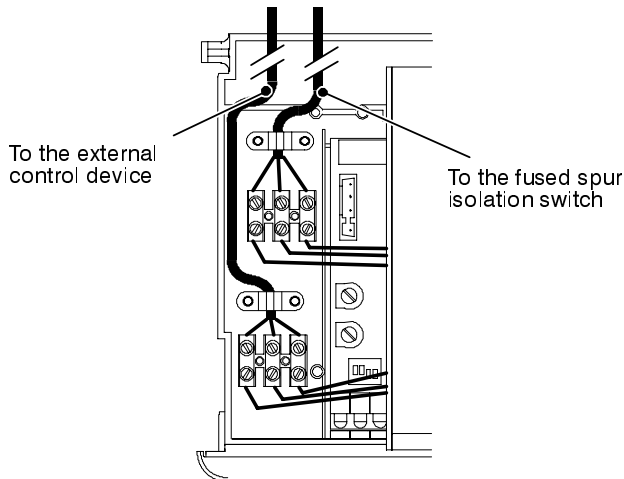

Fig. 6.17
- 9 Route the electrical supply flexible cord and the external control flexible cord as illustrated in Fig. 6.17.